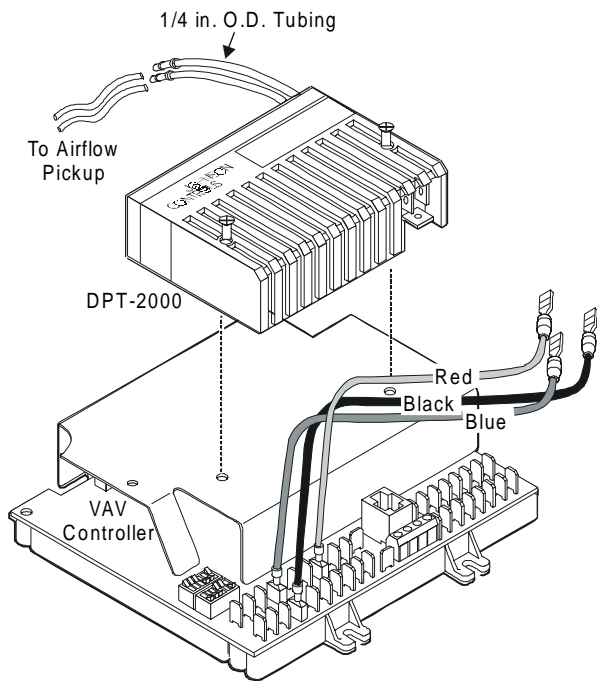

Figure 3: Removing the DPT-2000 from a VAV Controller
- Loosen screws as shown in Figure 3 and remove the DPT-2000, using a No. 2 Phillips screwdriver.